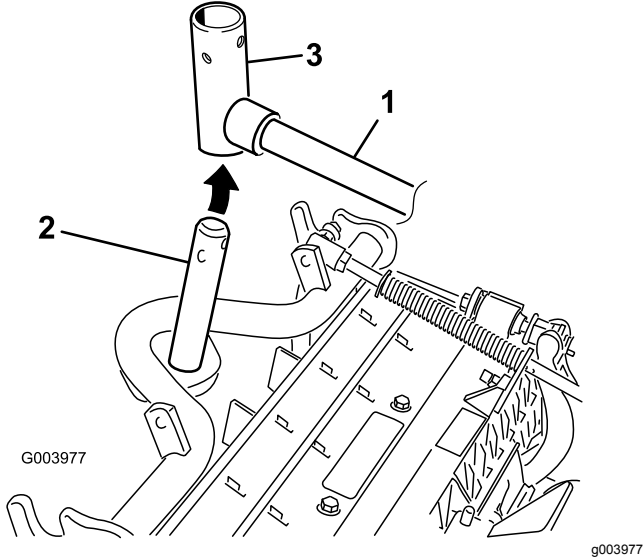

Figure 11
8. For the front cutting units, slide a cutting unit under the lift arm while inserting the carrier-frame shaft up into the lift-arm-pivot yoke (Figure 11).
- B. Insert the lift-arm yoke onto the carrier-frame shaft (Figure 11).